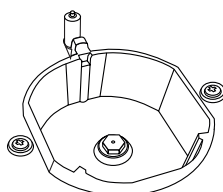

Figure 2
3. As seen in figure 2, demount burner lid and burner of the hob and ensure visibility of injector.